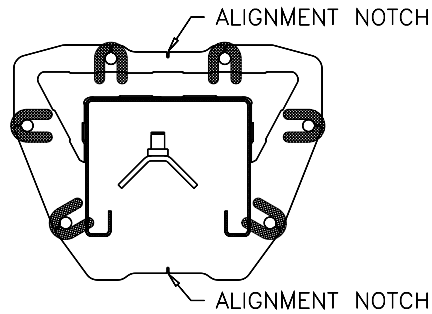

Fig 2 – Column Shimming
- Erect both column assemblies. Align the notches in column base, **Fig 2**, with the installation lines.
- Shim both columns to plumb using the shims provided as shown in **Fig 2**. **DO NOT** shim more than 1/2" at any given point. Use a level no less than 24" in length to plumb columns.
- 12) Check idler column shimming. Use additional shims (see **Fig. 2**) to remove any gaps that may have been created while installing overhead beam. Tighten anchor bolts and recheck column for plumb. Torque to 150 foot pounds.